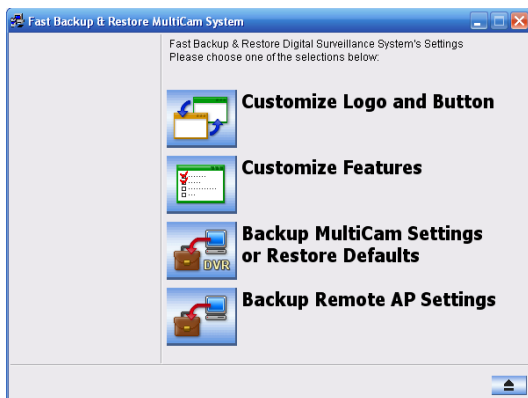

Figure C-1
1. In the FBR window (Figure C-1), click the **Backup Remote AP Settings** icon, and select the desired application from the menu. For example, we select VSM Server. This dialog box appears.